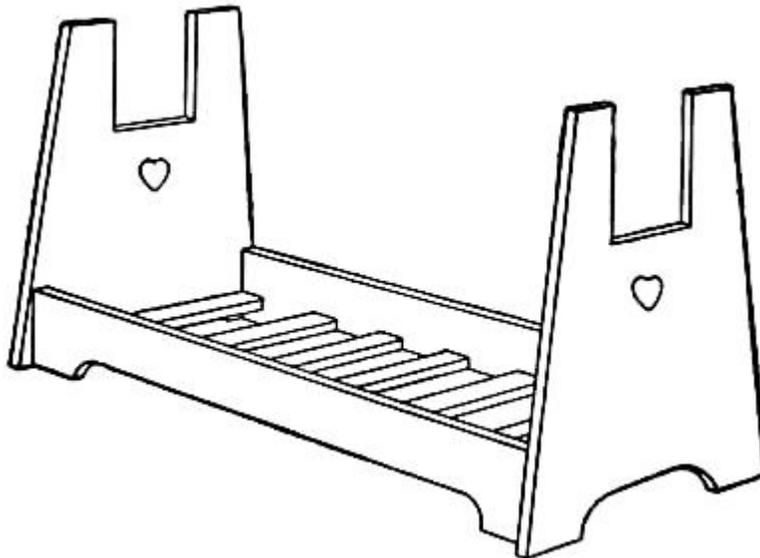

FIG. 135.—A Bed.
**The Beds** of a doll-house. To make Fig. 135, cut the head and foot by means of the pattern in Fig. 125, and cut the two sides by means of the pattern in Fig. 126. After preparing these pieces and fastening them together as shown in the illustration (Fig. 135), cut a few strips a quarter of an inch wide for slats and fasten them between the sides of the bed. It is advisable to fasten these in place to prevent them from being lost.